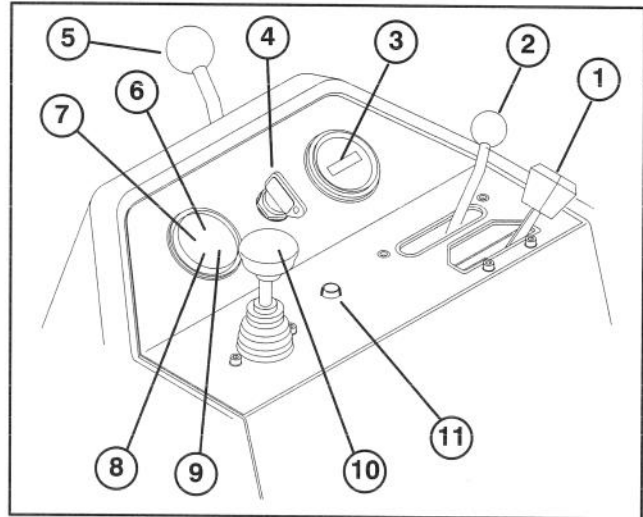

Figure 19
Throttle Control (Fig. 19) – The Throttle Control gives the operator the ability to control the speed of the engine. Moving the Throttle Control toward the “FAST” position increases engine RPM; moving Throttle Control toward “SLOW” will decrease engine RPM.
Functional Control Lever (Fig.19) – Provides two (2) traction selections, plus a “NEUTRAL” position. It is permissible to shift from mow to transport or transport to mow (not to neutral) while the Greensmaster 3200–D is in motion. No damage will result.
Hour Meter (Fig.19) – Indicates the total hours of machine operation. The hour meter starts to function whenever the key switch is rotated to “ON”.
Ignition Switch (Fig. 19) – Insert key into switch, turn clockwise as far as possible to “START” position to start engine. Release key as soon as engine starts; key will move to “ON” position. Turn key counter–clockwise to “OFF” position to stop engine.
Steering Arm Locking Lever (Fig.19) – Rotate lever rearward to loosen adjustment, raise or lower steering arm for operator comfort, then, rotate lever forward to tighten adjustment.
Water Temperature Light (Fig. 19) — Light glows and engine automatically shuts–down when engine coolant temperature gets too high.
High Temperature Override Button (Fig. 19) —If engine kills due to an over heat condition, press override button in and hold until machine can be moved to a safe location and allowed to cool down.
Glow Plug Indicator Light (Fig. 19) – When lit, indicates glow plugs are on.
Battery Warning Light (Fig. 19) – Light glows if battery charge is low.
Oil Pressure Light (Fig. 19) — Light glows if engine oil pressure drops below a safe level.
Raise / Lower – Mow Control (Fig 19) – Moving control forward, during operation, lowers the cutting units and starts the reels. Pull back on control to stop reels and raise cutting units. During operation reels can be stopped by pulling back on control momentarily and releasing. Restart reels by moving control forward.